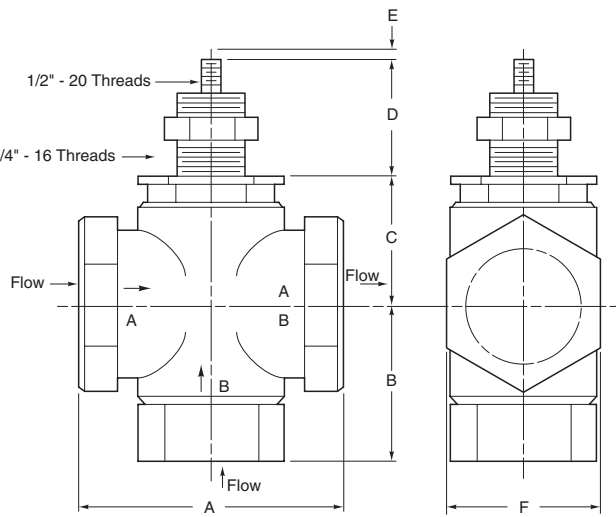
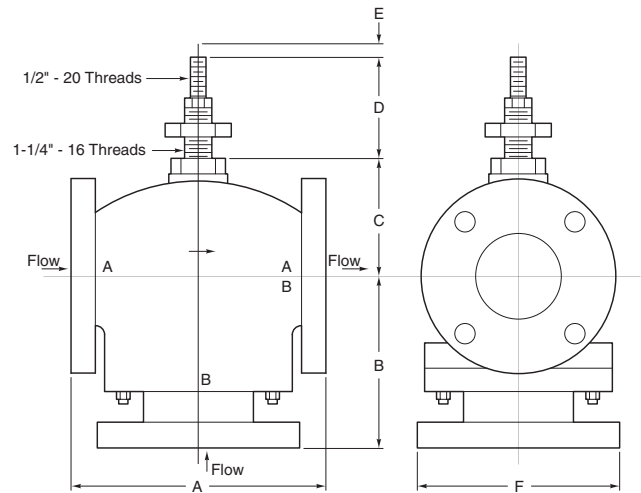

Figure 9. Typical of VB-9313-0-4-P, 2½" and 3" Valve Bodies.
Figure 10. Typical of VB-9313-0-5-P, 2½"...6" Valve Bodies.
**Table 8. Dimensions for VB-9313 Series Valves (Figure 9 and Figure 10)**